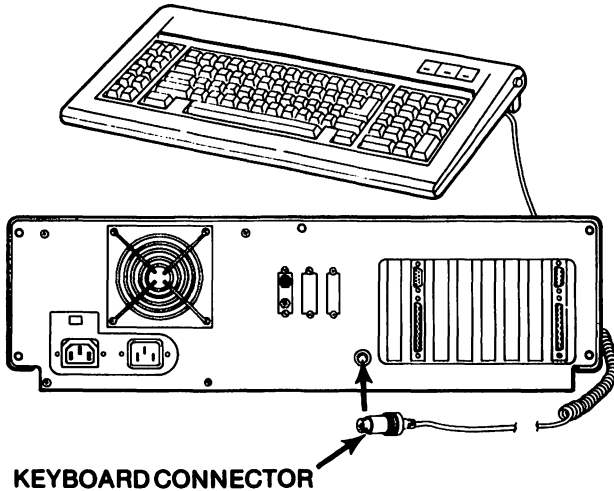

Figure 2-3
1. Connect the keyboard data cable to the round connector at the rear of the system unit as shown in Figure 2-3.